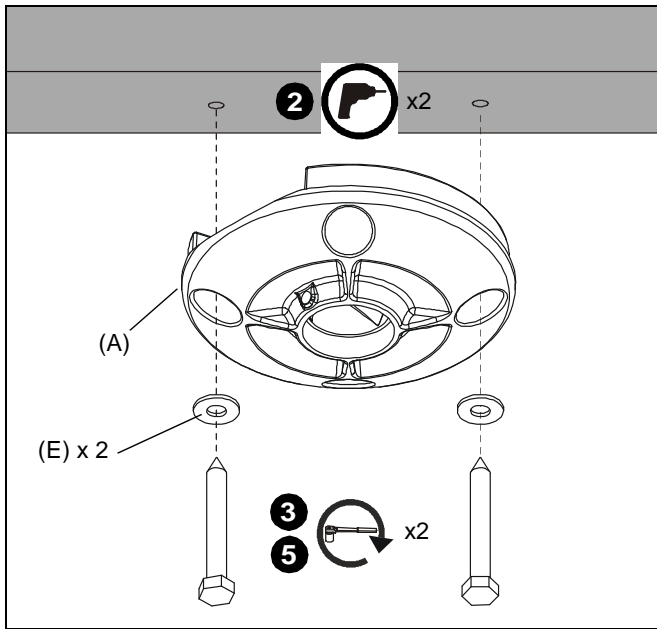
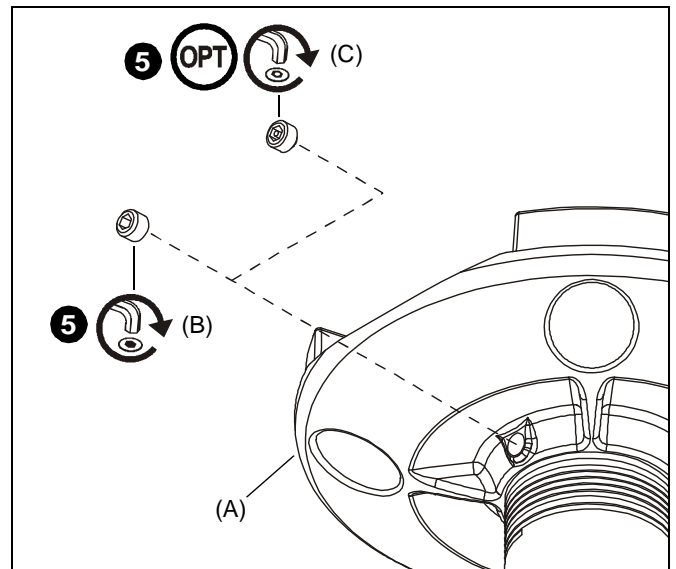

Figure 2
Figure 4
2. Drill 1/4" (6.4mm) diameter pilot holes into wood joist (See Figure 2). Ensure pilot holes are straight.
3. Using 9/16" (14.3mm) socket wrench, loosely install 3/8" x 2-1/2" (9.5mm x 63.5mm) lag screws through 3/8" (9.5mm) washers (E), plate (A), into wood joist (See Figure 2). Do not tighten plate (A) against ceiling at this time to accommodate cable installation.
5. Tighten lag screws (See Figure 2).
6. Route cables through extension column (1-1/2" NPT thread; accessory not included), then install column to plate (A). See installation instructions included with the accessory.
7. Using hex key (D), secure extension column by one of the following methods (See Figure 4):
- Install screw (B) into threaded hole, tightening firmly against column.
- **OPTIONAL:** Install security screw (C) into threaded hole, tightening firmly against column.